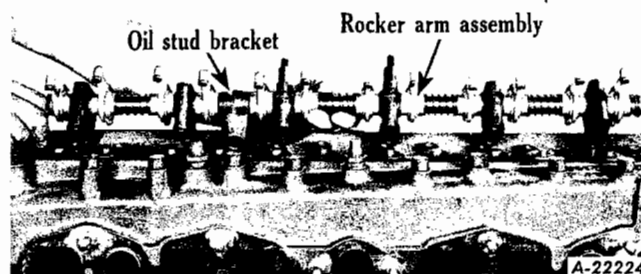

Fig. 3 - Removing Rocker Arm Assembly
3. Remove rocker-arm assembly as a unit (Fig. 3).